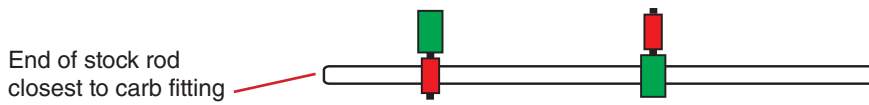

Figure 2
- Slide slip connectors over stock throttle rod as shown in Fig 2.